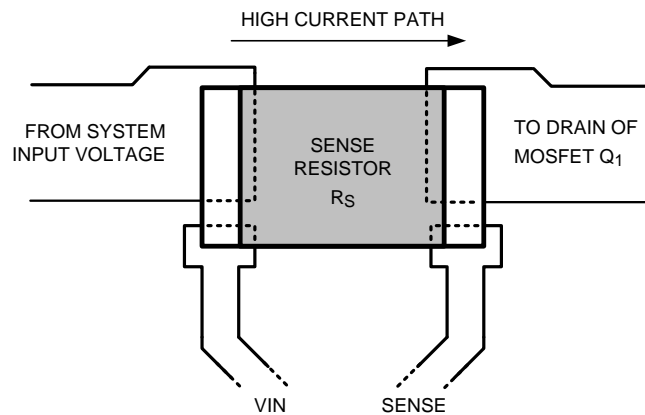

Figure 57. Sense Resistor Connections
- The sense resistor ( $R_S$ ) should be placed close to the LM25066. In particular, the trace to the VIN pin should be made as low resistance as practical to ensure maximum current and power measurement accuracy. Connect  $R_S$  using the Kelvin techniques shown in Figure 57.